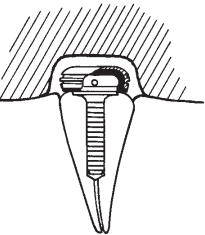

Fig. 6
3. Insert a Locator Denture Cap Processing Male Assembly (contained in Zest order No. 8519 Package) onto each cemented female, leaving the White Block-Out Spacer beneath it. (Fig. 6) The Black Processing Male will maintain the overdenture in the upper limit of its vertical resiliency during the processing procedure.